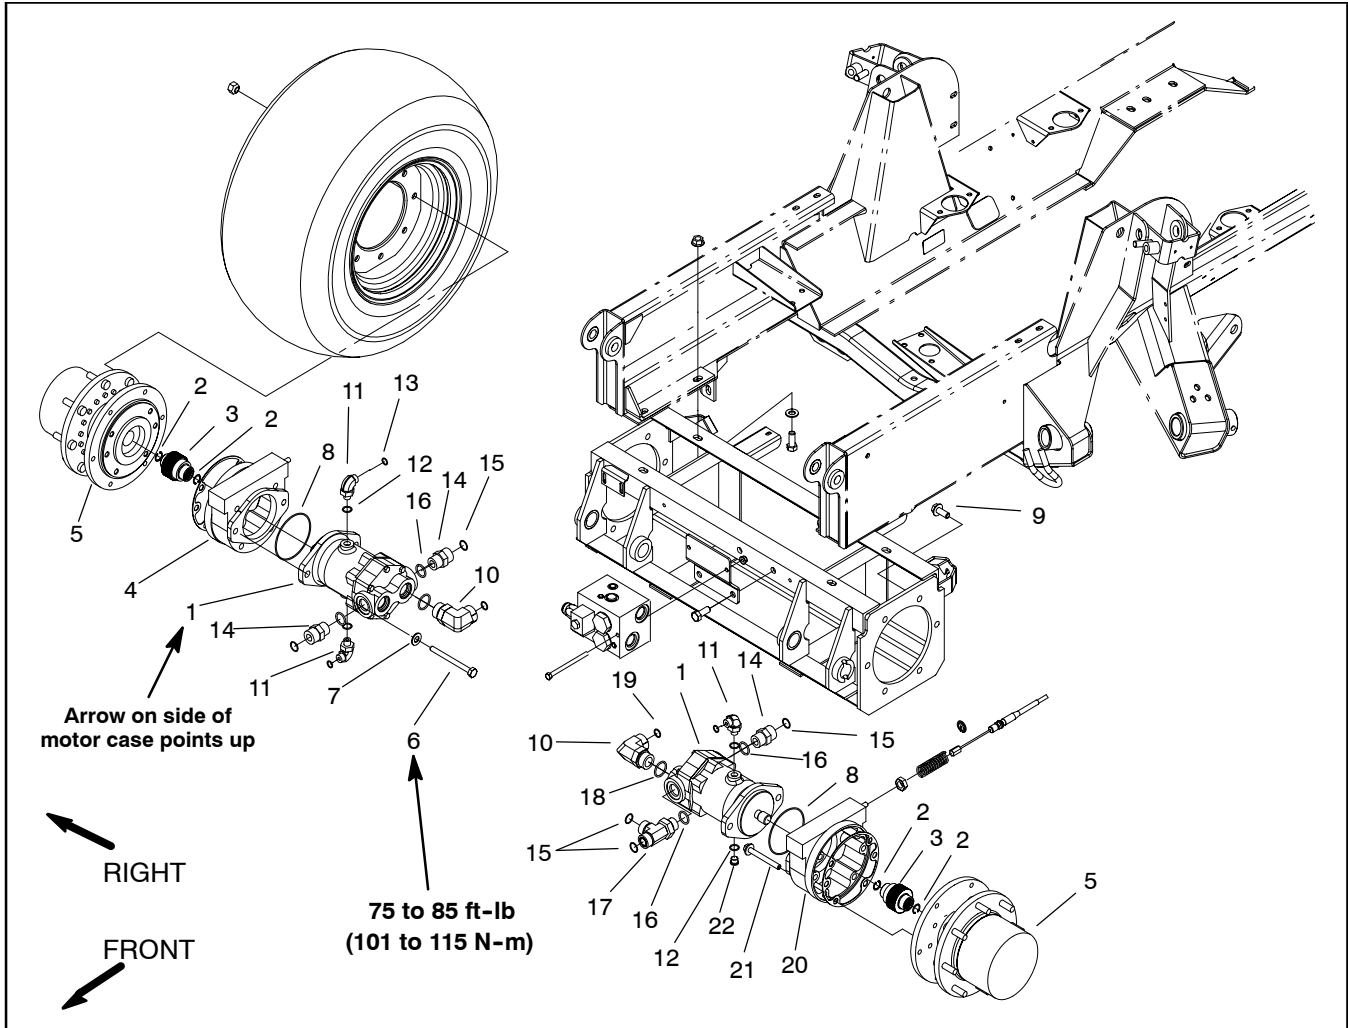

Figure 61
4. Remove wheel motor using Figure 61 as a guide.